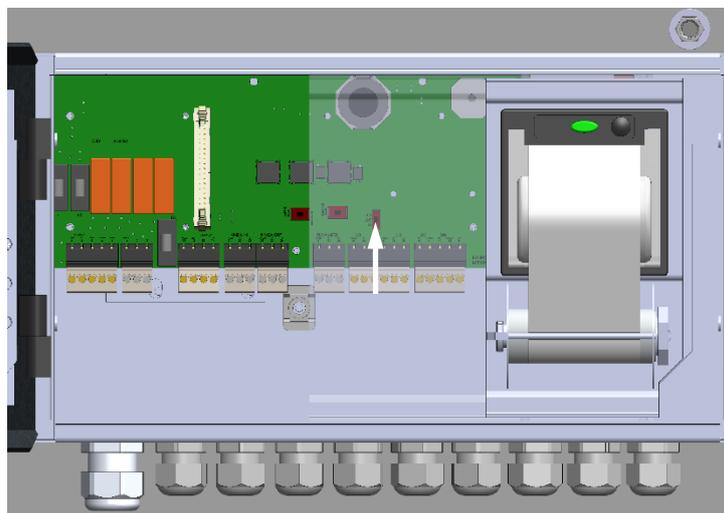

Figure 32. Flow meter switch should be set upwards (B1.5).
- Check that the switch (only on circuit board MTPOW with version C or later) inside the communication unit is set upwards. See *Figure 32*.